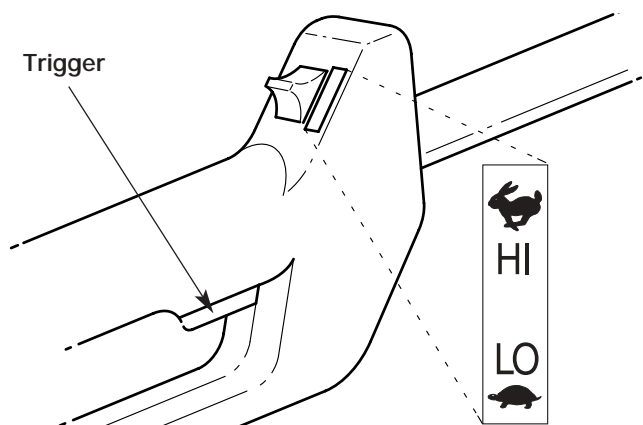

Fig. 10
**CAUTION:** Lock the release button in the primary hole (Fig. 10) and securely tighten the knob before operating this unit.
Once the unit is plugged in, stand in the operating position (Fig. 11). Squeeze the trigger to start the unit. To stop the unit, release the trigger (Fig. 10).
Push the switch up for high speed trimming. Push the switch down for low speed trimming (Fig. 10).